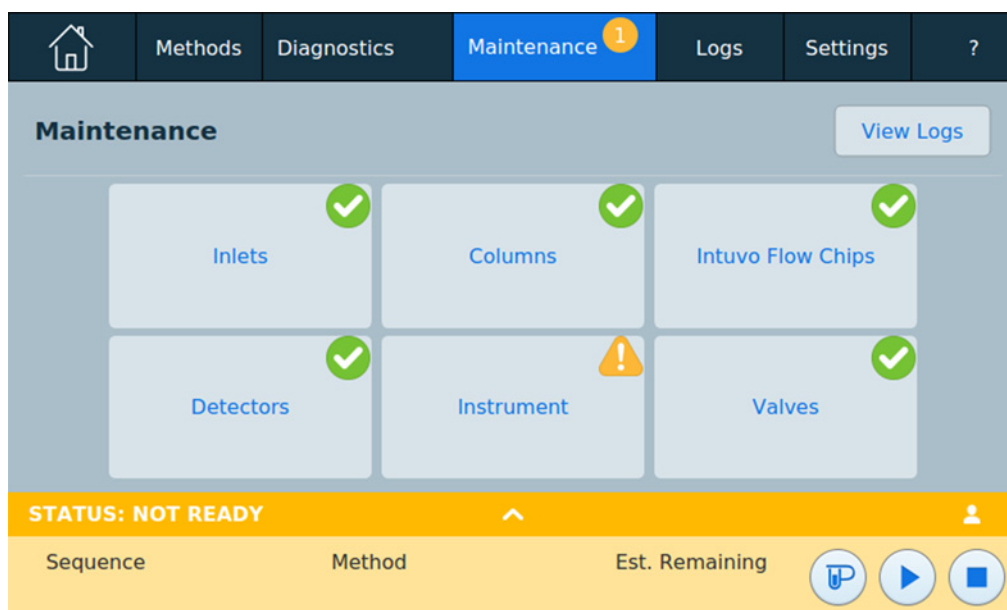

Figure 29 Maintenance view
Pressing the **Maintenance** button brings up the Maintenance view. See Figure 29.
- 1 Press the **Maintenance** button on the GC touch screen ribbon. The Maintenance screen appears. See Figure 29 on page 81.